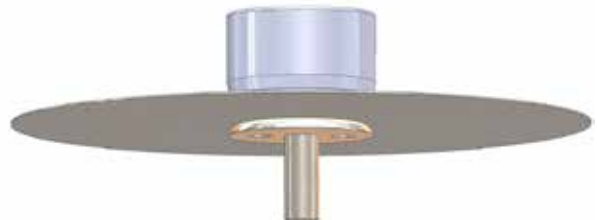

Figure 2
1. Remove adjusting screw assembly (8) completely out of the spring housing (6).
2. If valve is removed from the line, clamp the valve in a vise using the body (14).
3. Remove diaphragm casing bolts (13), spring housing (6) and upper diaphragm casing (2).
4. Remove range spring (12) and spring seat (5).
5. Remove diaphragm assembly parts (1), (3), and (4). See Figure 2.
7. Remove seat holder (9), seat (10) and plug (7) from body (14).
8. Place new plug (7) into body chamber. Make sure the bottom stop rod (bigger end) of the plug (7) goes down inside the return spring (14).
9. Place the new seat (10) into the seat holder (9) and carefully install into body cavity (14) taking care not to bend the narrow rod on top of the plug (7) when it passes through the seat holder (9). Tighten 30° past contact.
10. Refer to Figure 2. Unscrew the lower diaphragm plate (1) from the upper diaphragm plate (4). Discard the old diaphragm (3) and reassemble with new one. Use Lowflow replacement diaphragm only. Place diaphragm assembly parts (1), (3), and (4) back into body cavity (14), making sure the small counterbore on the bottom of lower diaphragm plate is properly engaged with the narrow tip of the plug (7) which protrudes through the seat holder (9).
11. Replace range spring (12), spring seat (5), centering both on top of the upper diaphragm plate (4). Replace housing (6), upper diaphragm casing (2), diaphragm casing bolts (13, tightened in a star pattern to 200 in-lbs), and adjusting screw (8).